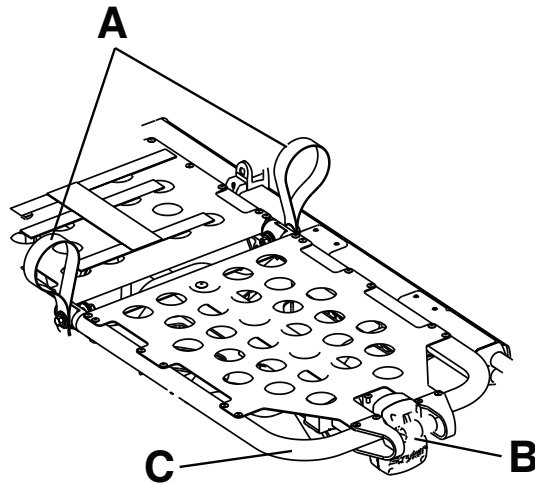

Figure 9 – Gatch
1. Lift either of the red lifting loops (A) until the knee Gatch is in the highest position (Figure 9).
To lower the knee Gatch, lift either of the red lifting loops (A) to relieve pressure on the locking mechanism, and while holding the loop, push on the red footrest release handle (B) until the support bracket is released (Figure 9). Lower the knee Gatch until it lays flat.
To raise the knee Gatch in Trendelenburg, lift the footrest frame (C) as high as possible until the frame locks into place (Figure 9). The support bracket automatically connects when you release the frame.
To lower the knee Gatch in Trendelenburg, lift the footrest frame (C) and, while holding the frame, lift up on the red footrest release handle (B) until the frame releases the support bracket (Figure 9). Lower the footrest until it lays flat.